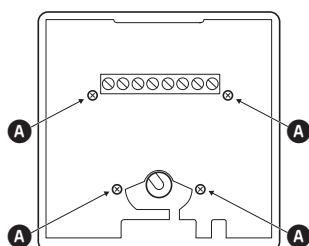

Fig. 2 Back with circuit board
- 1 Unscrew the 4 screws **A** that hold the circuit board on the back of the device. (Fig. 2)
- 6 Put the circuit board in position in the cover and tighten the 4 screws. (Fig. 2)